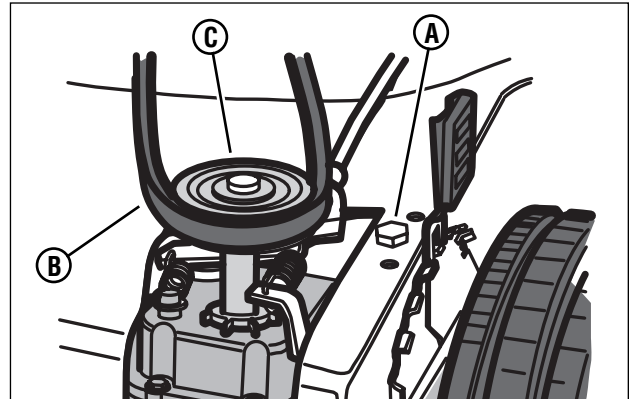
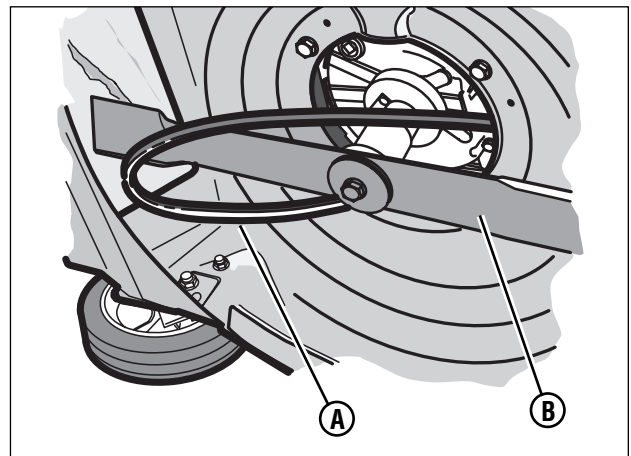

Figure 18: Loosening the belt tension bolt
Figure 19: Removing the belt
3. (SP2265FC Only): Loosen the belt tension bolt (A, Figure 18).
4. Remove the front of the drive belt (B) from the transmission pulley (C).
5. To remove the rear of the drive belt (A, Figure 19), slip the drive belt over the end of the blade (B).